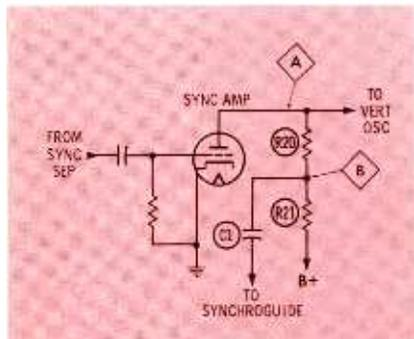

Fig. 1. Point B is waveform-divider point for checking sync amplitude for *Synchroguide*.
For efficient operation, the *Synchroguide* requires that sync signals have the following characteristics: (1) Amplitude—ranging between 15 and 25 volts, (2) Shape—narrow pulse with steep leading edge, (3) Polarity—pulse must be positive-going. All of these requirements are easily obtained from a two-stage sync section, and the majority of receivers using *Synchroguide* contain at least two stages of sync. Since two-stage sync sections usually supply 30 or more volts of sync amplitude, a voltage divider is generally incorporated at the output to reduce the sync to 15 volts or so. The circuit in Fig. 1 is typical of final sync stages in *Synchroguide* receivers. The voltage divider consists of R20 and R21, and C1 couples sync pulses to the *Synchroguide*.
For examining the sync signal, it is recommended that the first scope observation be made at the plate of the sync output (point A of Fig. 1), since any distortion is more obvious here than at the takeoff point (point B of Fig. 1). It is also recommended that the scope sweep be set at one-half the vertical frequency rather than the horizontal frequency. There are two reasons for these recom-